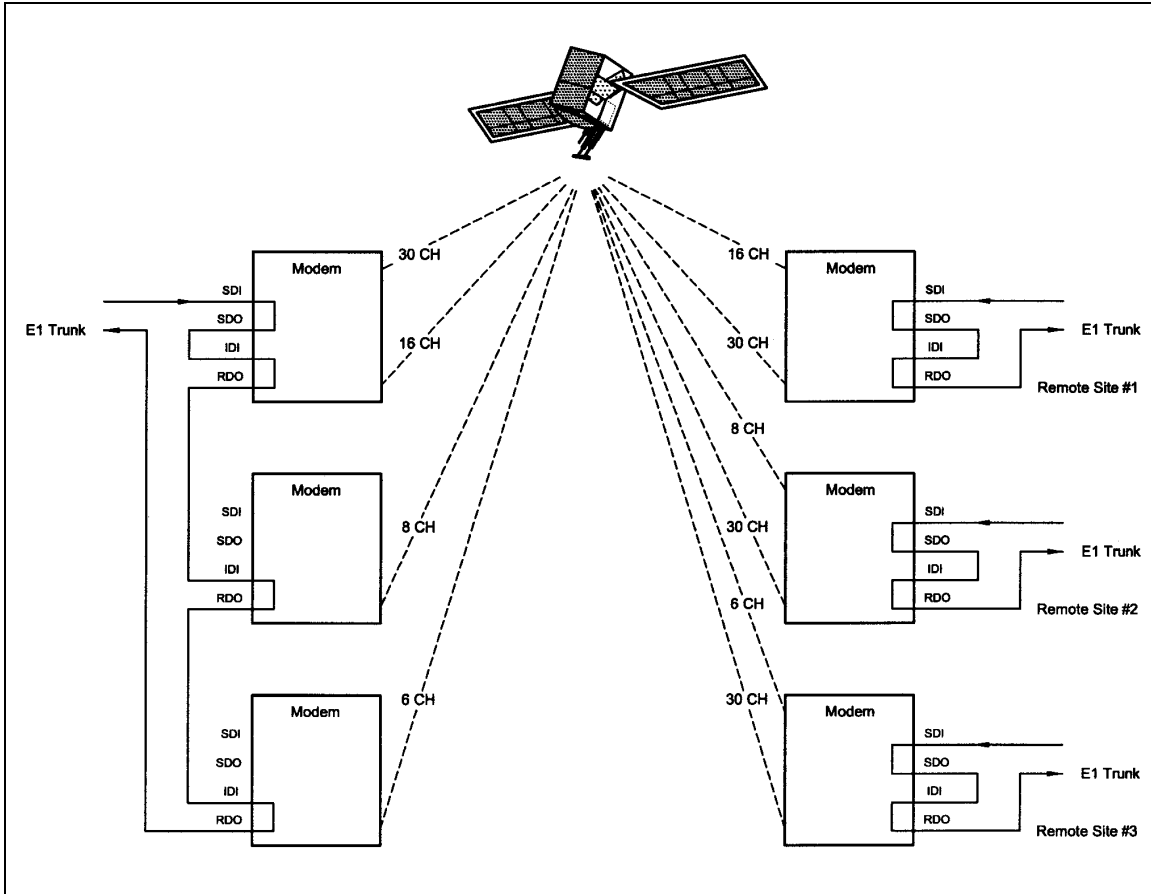

Figure 3-13. Multidestinational Communications
Because the Drop and Insert Functions are completely independent, the DMD15/DMD15L easily supports multidestinational communications. Figure 3-13 illustrates a Multidestinational System with one Hub site and three remote sites. At the Hub site, thirty channels are being transmitted to all three remote sites and a fractional set of channels is being received from each remote site. At the other end of the link, each remote site is transmitting a fractional E1 to the Hub site as well as receiving all thirty (30) channels from the Hub site. It also identifies those channels intended for it, and inserts them into the terrestrial data stream.
When the Reed-Solomon Codec is enabled, data is fed to the RS Encoding Section of the DMD15/DMD15L where it is scrambled, formed into blocks, RS encoded, and interleaved. Unique words are added so that the blocks can be reformed in the Receiving Modem (Refer to Figure 3-13). Data is then sent to the modulator where it is convolutionally encoded, modulated and transmitted to the satellite.